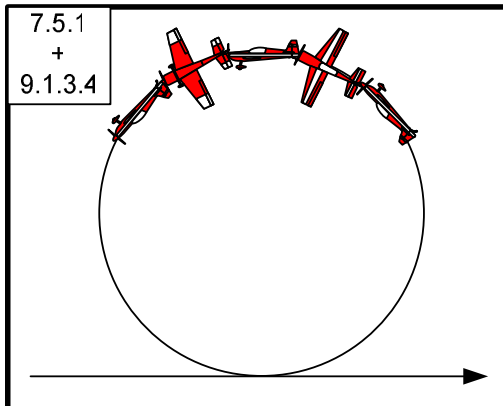

Fig. 36
If there is a rolling element (roll, point rolls or snap) at the apex of the loop, it must be centered in the loop and flown on the arc of the loop itself (Fig. 36). Flying the roll on a line at the apex of the loop is at least a two (2) point downgrade. If the roll is not centered, it must be downgraded one (1) point for every ten (10) degrees that it is off center.